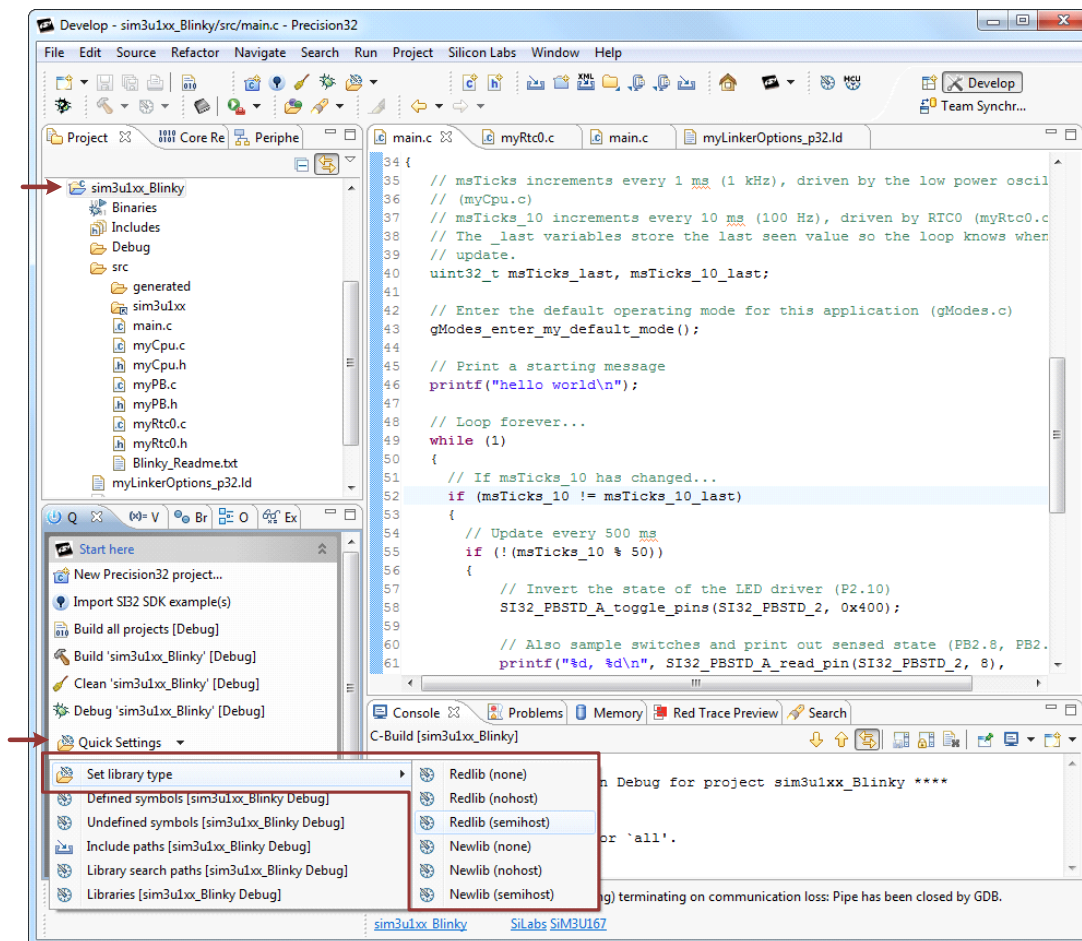

Figure 4. Using the Precision32 IDE to Select the Project Library
3. Click on **C/C++ Build**→**Settings**→**Tool Settings** tab→**MCU Linker**→**Target** and select the desired library from the **Use C library** drop-down menu. Figure 4 shows this dialog in the Precision32 IDE.